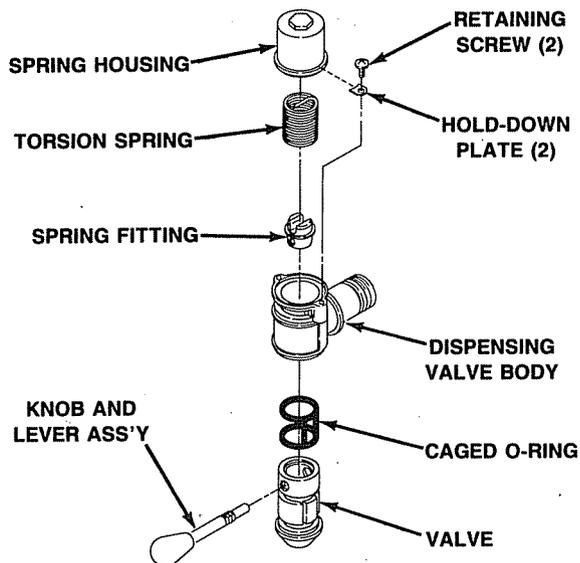
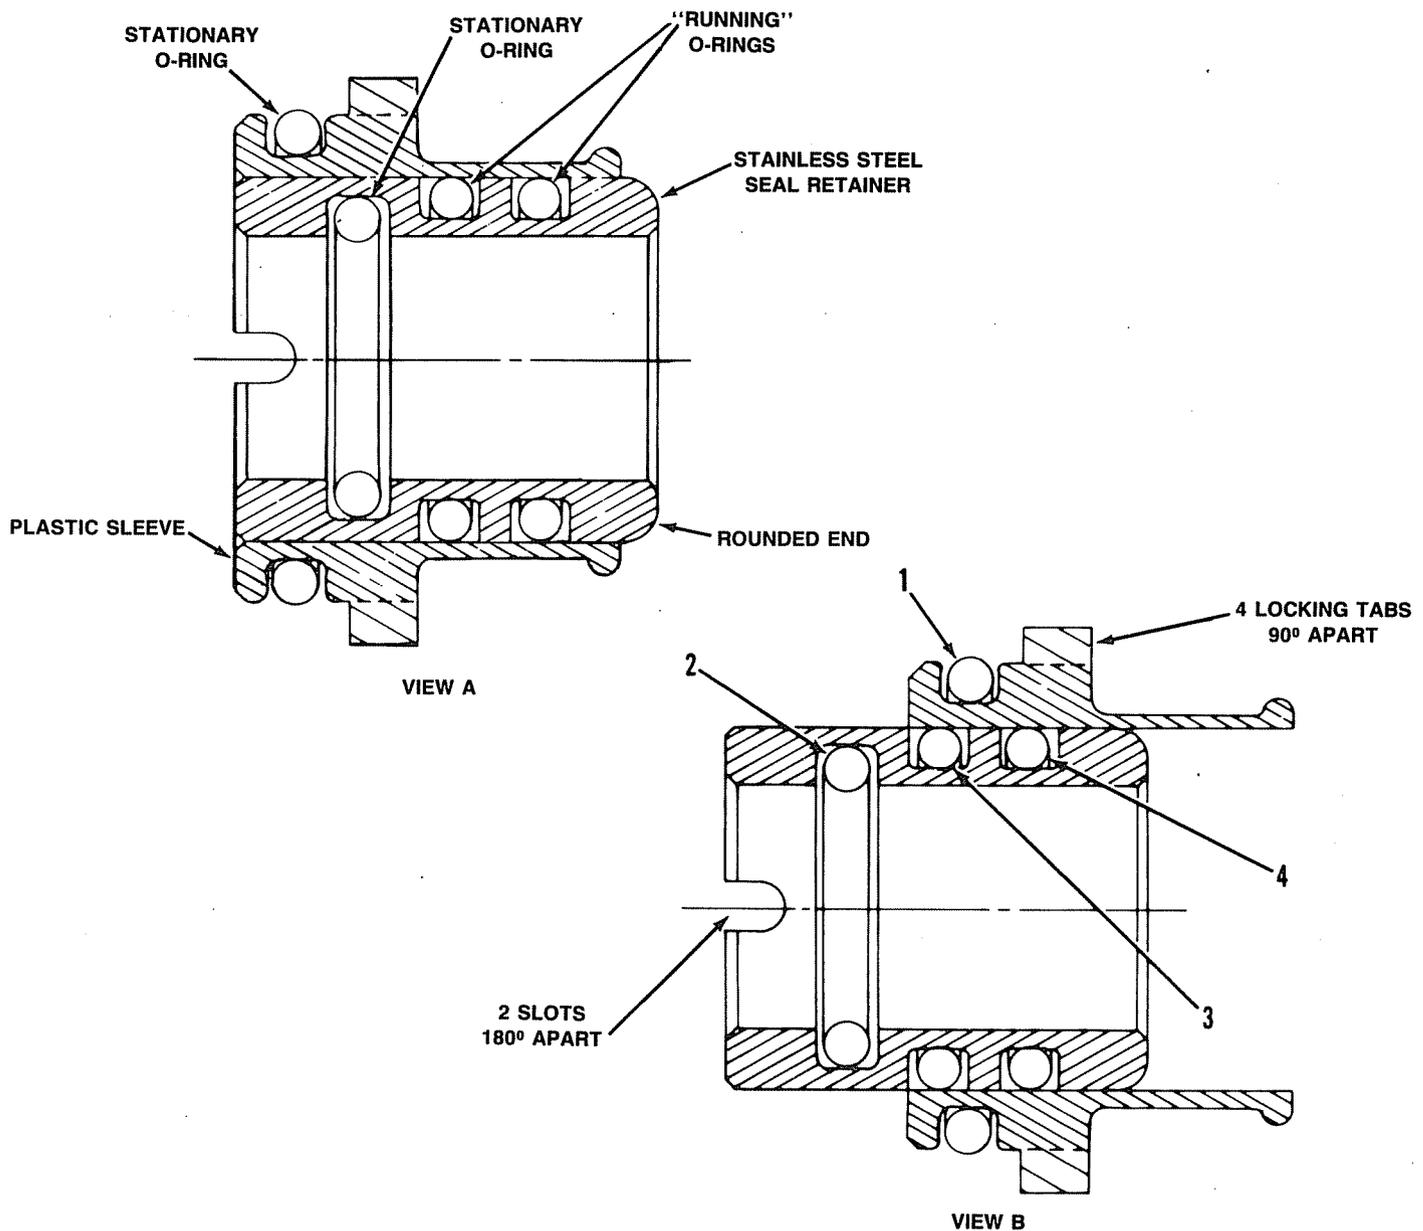

FIGURE 4-3. SELF-CLOSING DISPENSING VALVE
FIGURE 4-4. INSTALLING SHAFT SEAL ASSEMBLY IN FREEZE CYLINDER
Lubricate viscosity sensor (see Figure 2-1) and dispensing valve caged O-ring (see Figure 4-3) and beater shaft seal assemblies (see Figure 4-4) each time unit is sanitized as follows:
- 1) Remove KNURLED NUTS (item 11), and FLAT-WASHERS (item 10) to remove faceplate assembly.
- 2) Unscrew RELIEF VALVE (item 13) from FACEPLATE (item 12).
- 3) Hold VISCOSITY ROD (item 9) and unscrew VISCOSITY SENSOR (item 4) from FACEPLATE (item 12). Pull SPINNER (item 5), O-RING (item 20), and TEFLON WASHER (item 22) from viscosity rod. Remove viscosity rod from faceplate. Remove REDUCER (item 21) from viscosity sensor.
- 4) Remove BUSHING (item 16) and O-RINGS (item 8) from FACEPLATE (item 12). Carefully remove O-RINGS from bushing.
- 5) Carefully remove large O-RING (item 8) from FACEPLATE (item 12).
- 6) Disassemble dispensing valve (see Figure 4-3) as follows:
- f. Slide stainless steel seal retainer in plastic sleeve until "running" O-ring No. 3 is just covered by plastic sleeve, as shown in View B of Figure 4-4.
- h. Position SCRAPER BLADES (item 2) on nipples at ends of beater cross arms. Place elongated holes in blades on back of BEATER (item 23). Slide beater into freeze cylinder so slotted hooks engage DRIVE PINS (item 24) on DRIVE SHAFT (item 25). Turn beater clockwise to lock in place.
- i. Position large O-RING (item 8) on FACEPLATE (item 12). Install faceplate on Unit so dispensing valve spout faces down and VISCOSITY ROD (item 9) is positioned in slot of SWITCH ACTUATOR (item 7). Lubricate O-RING (item 7) with water to facilitate faceplate installation. Tighten knurled nuts until faceplate touches freeze cylinder all around flange. CAUTION-DO NOT OVERTIGHTEN KNURLED NUTS.